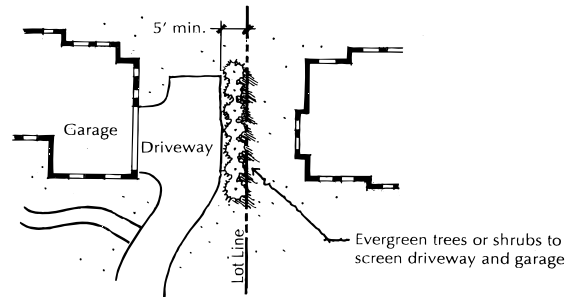

Figure 11.4.1 - Driveway/Garage Screen Planting
As set forth in Section 2.3 in the Architectural and Design Guidelines, driveways shall not be located closer than two (2) feet to the side Lot boundary line. Where a driveway exists on a Lot that is adjacent to a neighboring Lot which does not have a driveway on the same adjacent side, the Owner of the Lot on which the driveway exists shall be responsible for landscaping the two (2) foot strip between such Owner's driveway and the side Lot boundary line with a row of seven or more evergreen shrubs or narrow, conical evergreen trees to screen the view of the driveway from the neighboring Lot. This plant material will be required in addition to the minimum initial Landscape Improvements planting requirements set forth in Section 9 herein. (See Figure 11.4.1.)